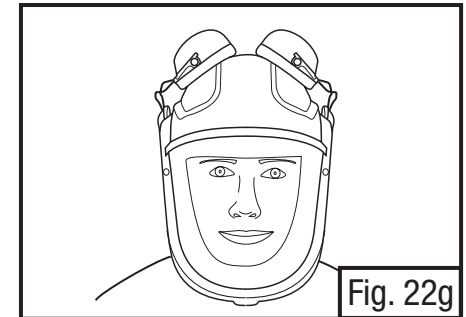

Fig. 22g
- **Parked:** Cups may be rotated out of the way onto the top of the headgear (Fig. 22g) if the headgear shell is clean and free of contamination. Care should be taken to ensure the ear cushions stay clean.